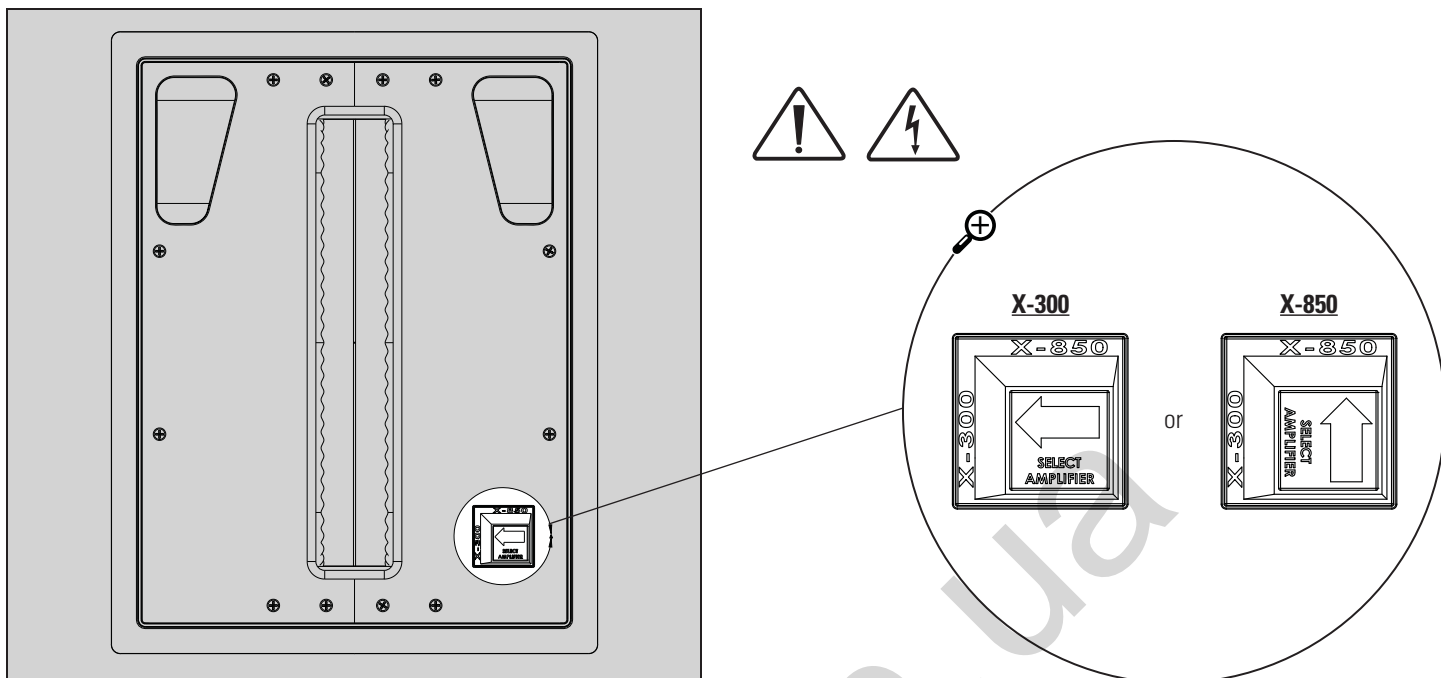

Fig. 2
**TO PREVENT DAMAGE TO AMPLIFIER OR SUBWOOFER, THE IMPEDANCE MATCHING SWITCH ON YOUR 'REFERENCE' RVC SUBWOOFER'S BAFFLE MUST BE CORRECTLY POSITIONED (See Fig. 2).**
To prevent damage to amplifier or subwoofer, the **Impedance Matching Switch** on your ‘Reference’ RVC subwoofer’s baffle must be correctly positioned (Fig. 2).